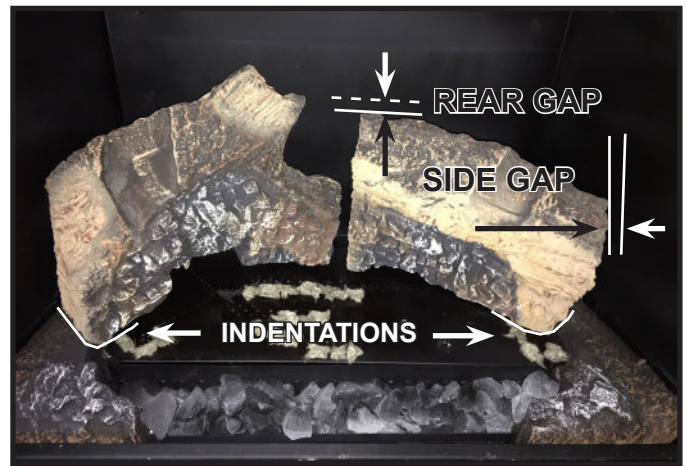

Figure 5. Rear Right Log Installed
The log pins, along with the indentations in the hearth components, will aid in correctly positioning the two rear logs and small burner log. The indentations are shown in Figure 5.
Additionally, the rear left log and rear right log are located by indentations in the right and left hearth components. See Figure 5.
2. Remove the large rear right log from packaging and install it by locating it on the back right log pin. On some models, it may be necessary to lift the rear left log slightly to install the rear right log. The right side of the log will reside within the indentation in the right hearth component. See Figure 5.
550X-AU Models: The rear right log will be positioned to maintain about a 1 in. (25 mm) rear gap between the rear right log and the back wall refractory. The rear right log maintain a 1 in. (25 mm) gap from the right wall. See Figure 5.